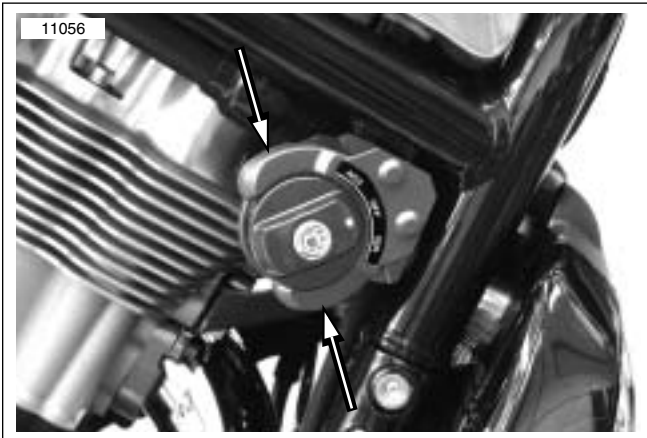

Figure 8-8. Ignition Switch Cover
2. See Figure 8-8. Remove ignition switch protective cover by pressing in location shown by arrows using thumb and index fingers. Simultaneously lift up at bottom of protective switch cover with index finger of opposite hand and pull cover away from base of switch.